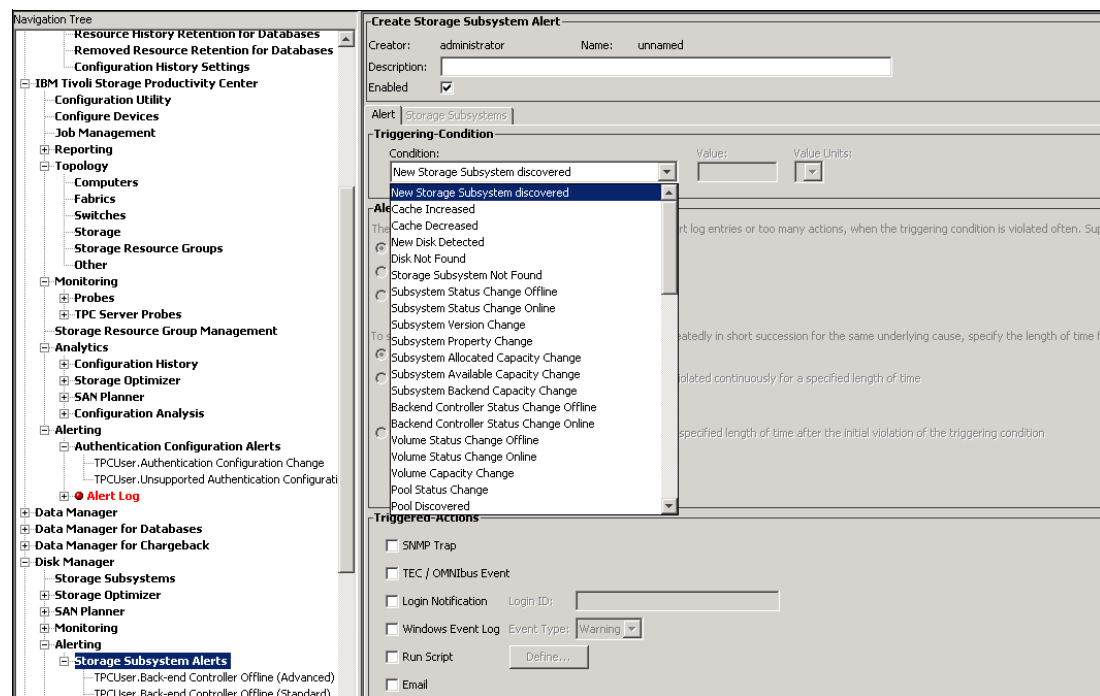

Figure 13-126 SAN Volume Controller constraints alert definition
1. Click **Disk Manager** **Alerting** **Storage Subsystem Alerts**. Right-click and select **Create a Storage Subsystems Alert**, as shown in the left pane in Figure 13-126.
2. In the right pane as shown in Figure 13-126, in the Triggering Condition box under Condition, select the alert that you want to set.